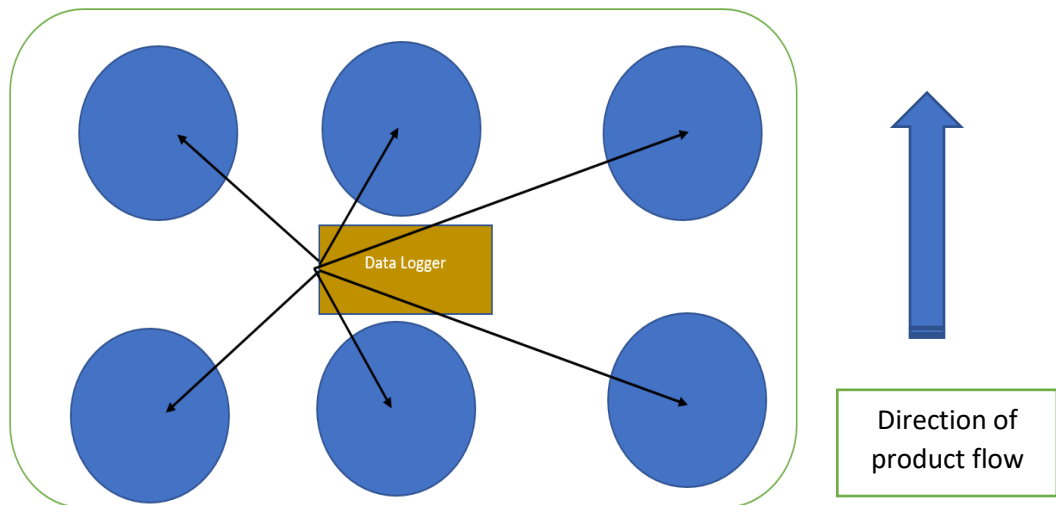

Figure 2.
- Remove Pizza from the oven band (if needed) to allow for placement of the data logger. (see Figure 2).